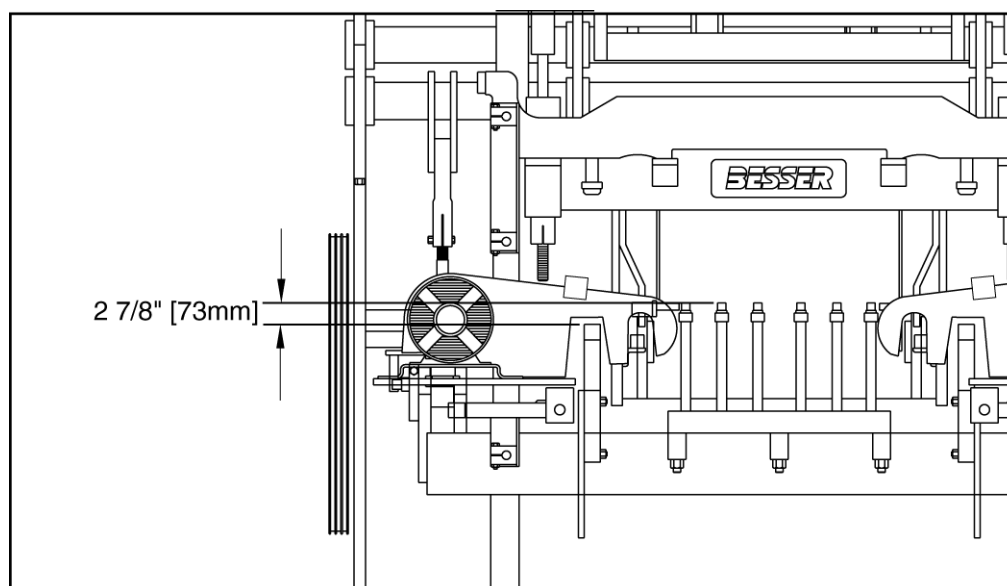

Figure 4.12 PALLET RECEIVER RUBBERS POSITION
- 4.1.5 Adjust the pallet receiver frame so that the pallet receiver rubbers are **2 7/8" [73mm]** above the mold throat (see figure 4.12).